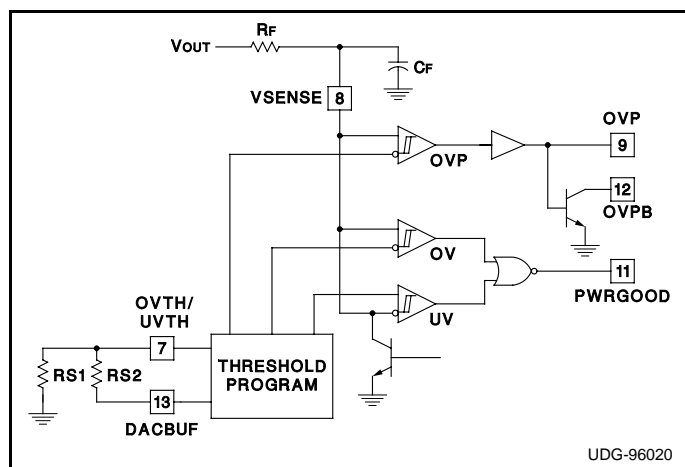

Figure 1. Setting the OV/UV/OVP Threshold Percentages
Note 3: "Code 0" means pins D0 - D4 are all low; "Code 15" means they are all floating or high (See Table 1). "Ratio" is the divider ratio of the resistor string between DACBUF and OVTH/UVTH (See Figure 1).
The Overvoltage (OV), Undervoltage (UV) and Overvoltage Protection Voltage (OVP) threshold detection voltages are programmed as a percentage about the nominal DAC output voltage, DACOUT. Figure 1 illus-